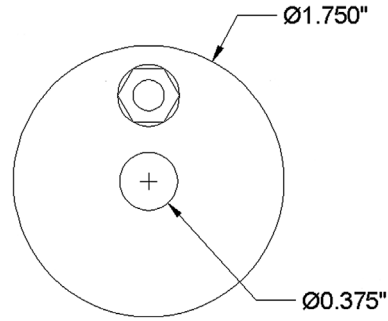

FIGURE 8.25 Bolt array.
Step 5. Complete the rest of the top view by drawing the remaining circles and positioning the bolt at the top, as shown in Fig. 8.25. Use accuracy (OSNAPs), although the bolt can be any distance from the top of the circle. Be careful to use diameter, as indicated.